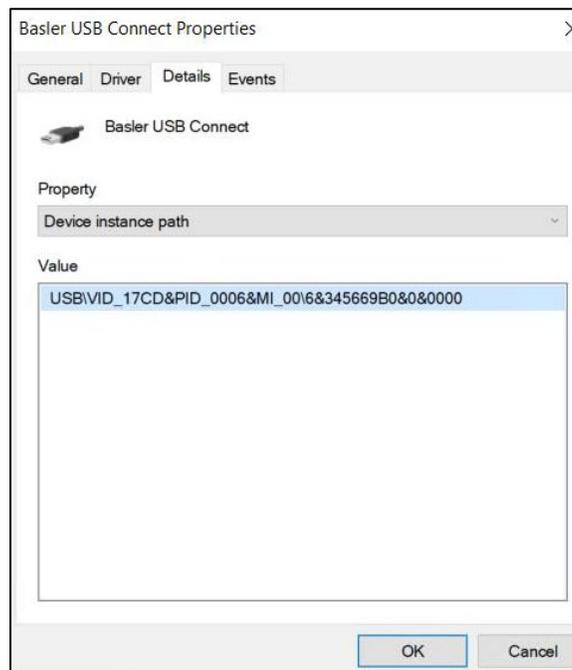

Figure 62-4. Basler USB Connect Properties
- Step 3. In the Basler USB Connect Properties window (Figure 62-4), select the Details tab. Check to see if the Value contains **MI_00** or **MI_02** in the middle of the string. This value will be used later in Step 6.